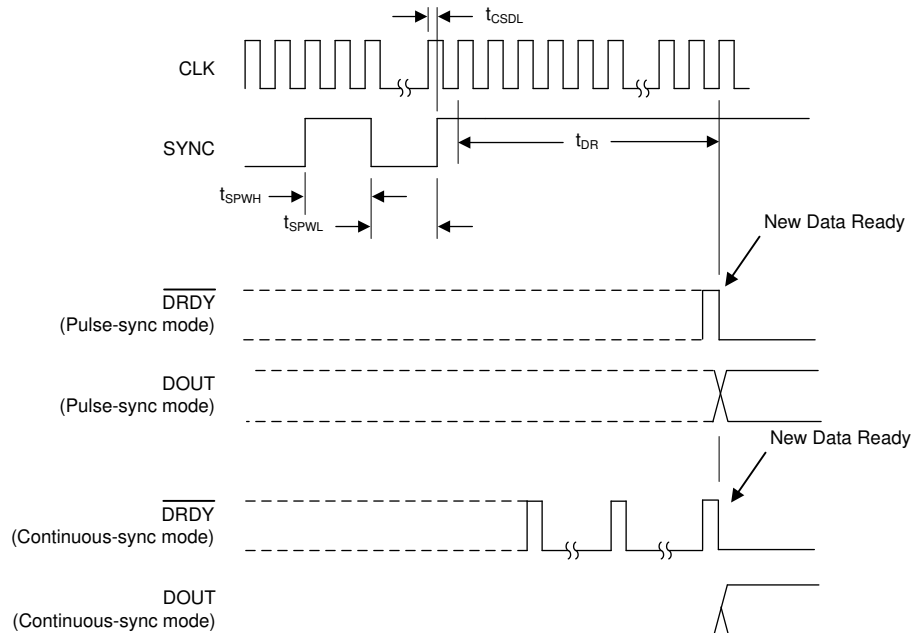
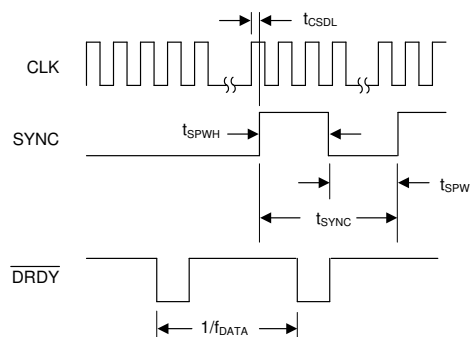

Figure 53. Pulse-Sync and Continuous-Sync Timing With Single Synchronization
Figure 54. Continuous-Sync Timing With SYNC Clock
In pulse-sync mode, the ADS1284 unconditionally synchronizes by stopping and restarting the conversion process. Synchronization is possible by pin or command in this mode. At synchronization, the device resets the internal filter memory, DRDY goes high, and after the digital filter has settled, new conversion data are available as shown in Figure 53 and Table 14 (Pulse-sync mode).
Table 14. Pulse-Sync Timing for Figure 53 and Figure 54
(1) CLK rising edge to SYNC rising edge timing must not occur within the specified time window.
(2) Continuous-sync mode; a free-running clock applied to the SYNC input without causing resynchronization. See Figure 54
Observe the timing restriction of SYNC rising edge to CLK rising edge as shown in Figure 53 and Table 14. Synchronization occurs on the next rising CLK edge after the rising edge of the SYNC, or after the eighth rising SCLK edge when synchronized by command. To synchronize multiple ADCs by the sync command, broadcast the command to the ADCs simultaneously.
In continuous-sync mode, either a single synchronization pulse or a continuous synchronization clock may be applied. Use the SYNC pin in this mode. When a single sync pulse is applied (rising edge), the device resynchronizes the same way as pulse-sync mode. ADC re-synchronization occurs only when the time between SYNC rising edges is not an integer multiple of the conversion period. When resynchronization occurs, $\overline{DRDY}$ continues to toggle at the period of the data rate, and the DOUT output is held low until data are ready (63 $\overline{DRDY}$ periods later). At the 63rd reading, conversion data are valid, as shown in Figure 53.
If a synchronization clock is applied to the SYNC pin, the device resynchronizes only under the condition $t_{SYNC} \neq N / f_{DATA}$, where $N = 1, 2, 3$, and so on. When re-synchronized, $\overline{DRDY}$ continues to strobe, but the data on DOUT is held low until new data are valid after filter reset. If the period of the synchronizing clock matches an integral multiple of the data rate, the ADC does not re-synchronize. Note that the phase of the applied clock and output data rate ($\overline{DRDY}$) is not aligned because of the initial delay of $\overline{DRDY}$ after the SYNC clock is first applied. Figure 54 shows the timing for continuous-sync mode.